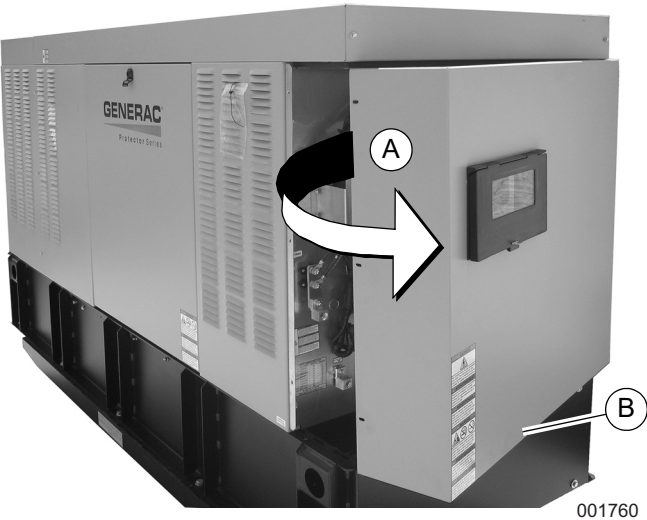

Figure 5-1. Remove Rear Panel and Stub-Up Cover
1. See Figure 5-1. Remove six screws with nylon washers to release rear panel (A) from enclosure. For best results, rotate left side of panel outward away from enclosure before disengaging right side.
NOTE: See Figure 5-1. Remove knockout plug and route accessory wiring to customer supplied weather-proof junction box. Verify wires do not contact moving or vibrating engine parts, as abraded wires can result in electrical problems.